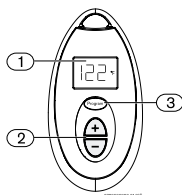

Fig. 7 *Memorising water temperature*
- ▶ Press the buttons  or  on the remote control (Fig. 7, pos. 2), until the required temperature appears on the remote control display (Fig. 7, pos. 1).
control (Fig. 7, pos. 3) pressed for 3 seconds.